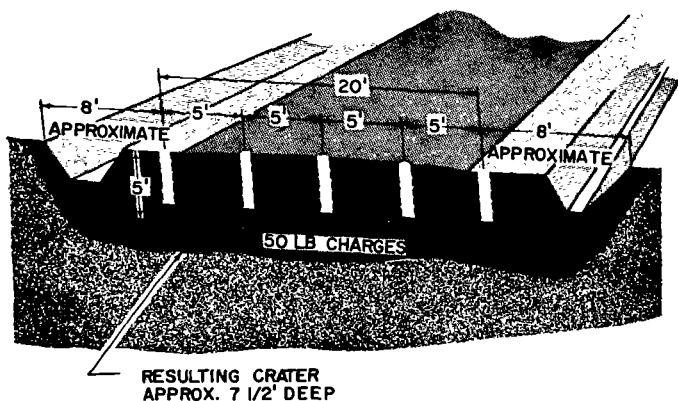

Figure 114. Placement of charges for a hasty road crater.
a. Hasty Road Crater. Figure 114 shows the placement of charges for a hasty road crater. This method produces a crater about $1\frac{1}{2}$ times deeper and 5 times wider than the depth of the boreholes, and about 16 feet longer than the line of boreholes.